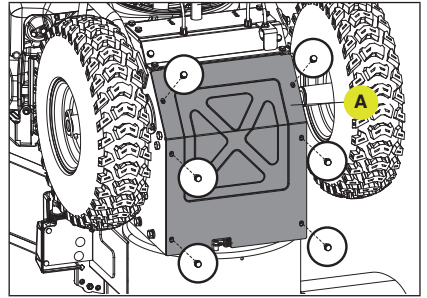

Figure 50
2. Remove the base frame cover (A) from the underside of the snowblower by removing the six M6 × 12 bolts. (Fig. 50)